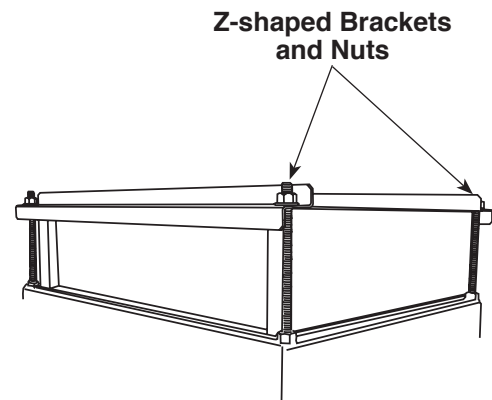

Figure 21
1. Remove the nut from each corner of the HEPA filter. See Figure 21.